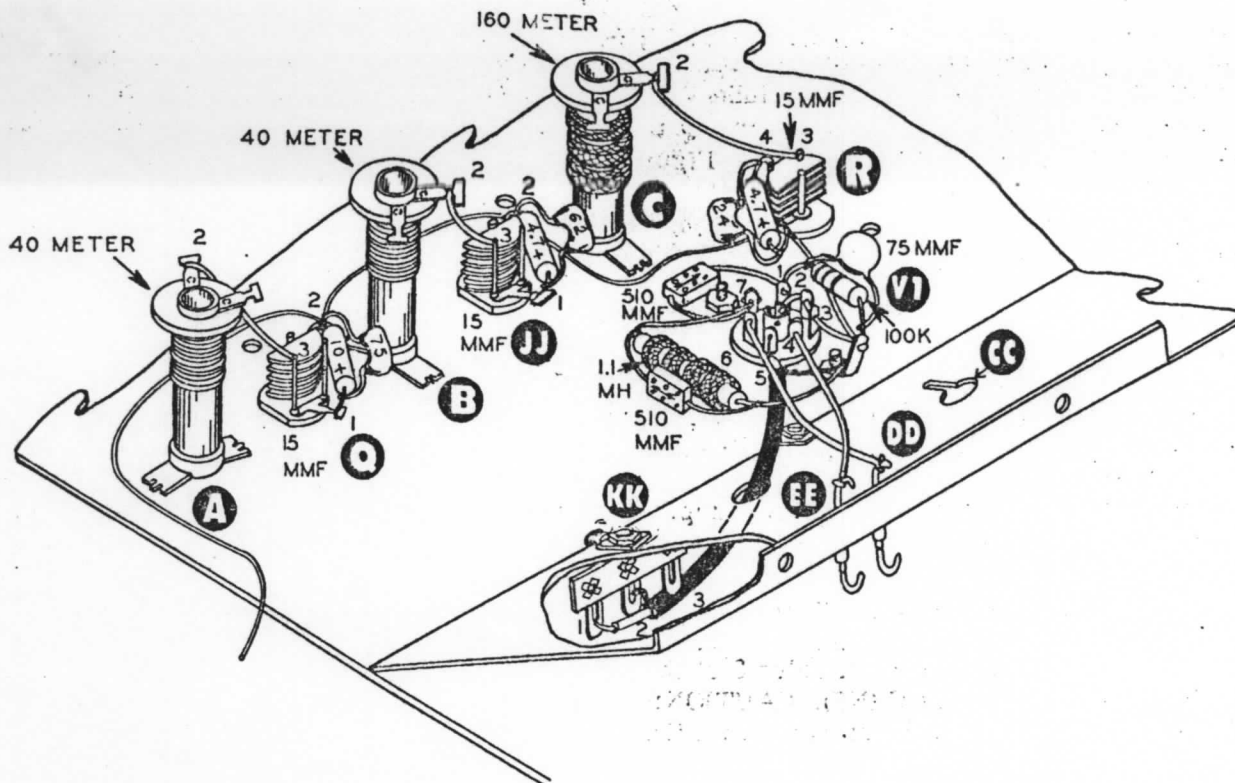
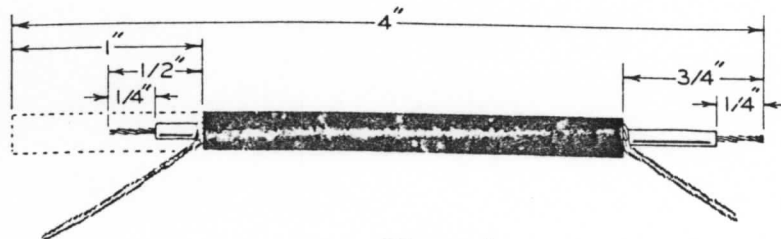

Figure 7
Figure 8
- (✓) Locate the three 15 mmf variable capacitors (#26-44) and connect the above combination from lug 1 to lug 2 of one of the variable capacitors. Position them so that both values can be read from the rear of the 15 mmf variable, as in Figure 6B. Solder lug 2 only. Now mount the assembly at location Q as shown in Pictorial 1 and Figure 7.
- () Refer to Figure 7 and connect one end of a 12" #20 bare wire to the ground lug opposite pin 3 of tube V1 (NS). Route the wire AS SHOWN against the chassis through lug 1 of the 15 mmf variable capacitor at location R (NS). Continue the wire against the chassis through lug 1 of variable capacitor at JJ (NS) and then through lug 1 of the capacitor at Q. Now solder all #1 capacitor lugs and leave the remaining length of wire free temporarily. Check to be sure this wire touches none of the rotor plates of the 15 mmf capacitors.
- () Run a length of #20 bare wire through pin 2 of tube V1 (NS), through pin 3 of tube V1 (NS), and connect one end to the ground lug opposite pin 3 of tube V1 (NS). Connect the other end to the socket center post (S-1). Now solder pins 2 and 3 of tube V1.
- () Connect a 510 mmf silver mica capacitor (green-brown-brown) between pin 1 of tube V1 (NS) and pin 7 of tube V1 (NS). Position as shown.
- () Connect this combination between pin 1 of tube V1 (NS) and the ground lug opposite pin 3 of tube V1 (NS), positioning as shown.
- () Refer to Figure 8 and cut a 4" length of shielded cable. Strip 1" of outer insulation off one end and 3/4" of outer insulation off the other end. Unwind the shield on the 1" end, then cut the center conductor to 1/2" and strip 1/4". Unwind the shield at the 3/4" end and strip the center conductor 1/4". Lightly tin all leads to hold in place.
- () On the 1/2" end, connect the center conductor to pin 5 of tube V1 (S-1). Connect the shield to the ground lug opposite pin 3 of tube V1 (NS). Run the other end through the nearby hole in the chassis center partition and connect the center conductor to terminal strip KK-1 (NS). Connect the shield to KK-2 (NS). See Figure 7.